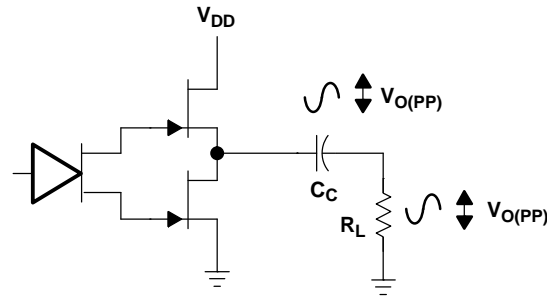

Figure 35. Single-Ended Configuration
In a typical computer sound channel operating at 5 V, bridging raises the power into an 8-Ω speaker from a singled-ended (SE) limit of 250 mW to 1 W. In sound power that is a 6-dB improvement, which is loudness that can be heard. In addition to increased power, frequency response is a concern; consider the single-supply SE configuration shown in Figure 35. A coupling capacitor is required to block the dc offset voltage from reaching the load. These capacitors can be quite large (approximately 40 μF to 1000 μF) so they tend to be expensive, occupy valuable PCB area, and have the additional drawback of limiting low-frequency performance of the system. This frequency-limiting effect is due to the high-pass filter network created with the speaker impedance and the coupling capacitance and is calculated with Equation 2.